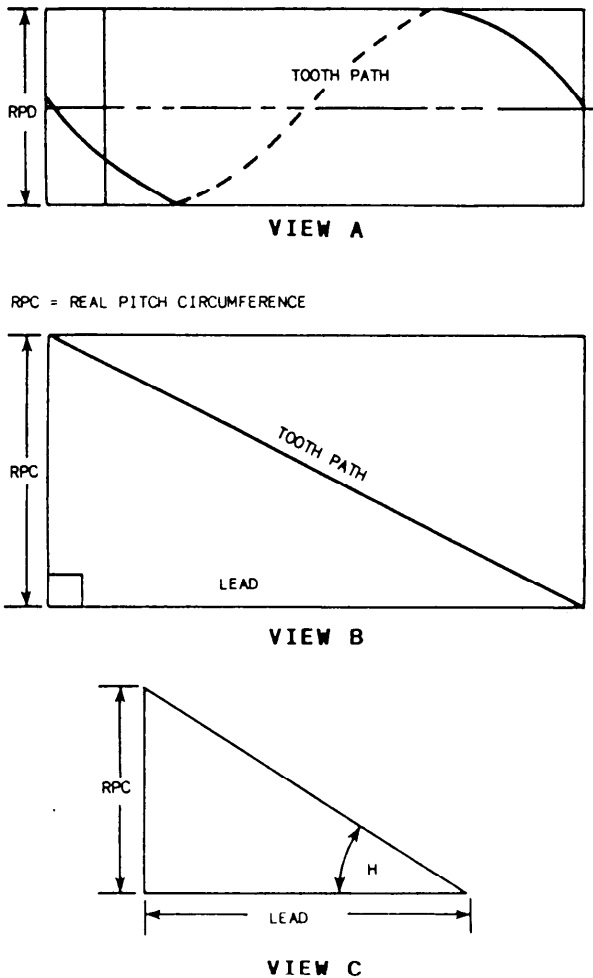

Figure 14-8.—Formulation of a lead triangle and a helix angle.
If we could open the gear on the pitch diameter (PD), we would have a triangle we could use to solve for the lead (fig. 14-8, view A).
Figure 14-8, view B, shows a triangle; one leg is the real pitch circumference and the other is the lead. Notice that the hypotenuse of the triangle is the tooth path and has no numerical value.
To solve for the lead of a helical gear, when you know the RPD and the helix angle, simply change RPD to RPC (real pitch circumference). To do that, multiply RPD by 3.1416 ( $\pi$ ) (fig. 14-8, view C), then use the formula: